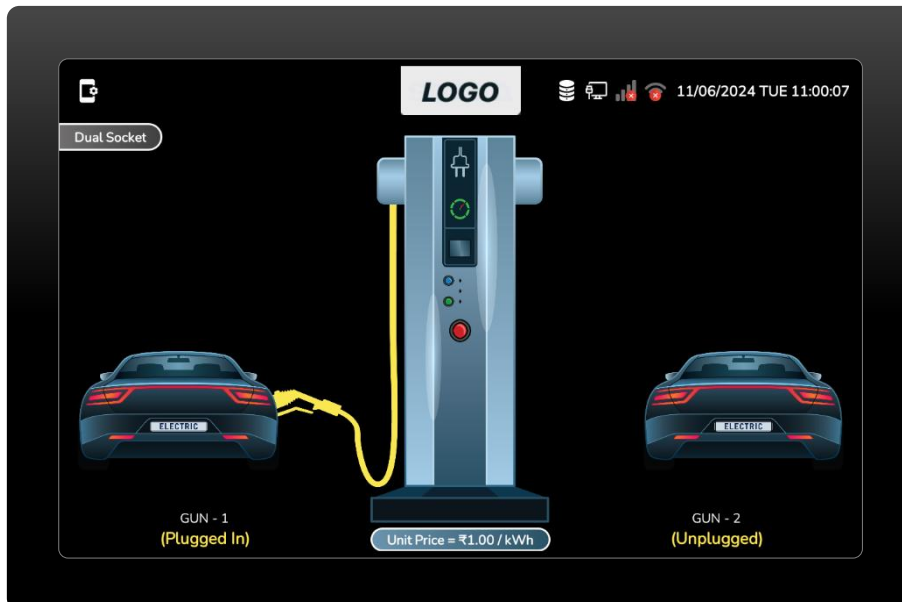

Figure 54 GUN Plugged in with Vehicle.
- Plugged one gun to the vehicle, the display indicates the plugged-in status, and the yellow GUN charger connects to the vehicle, as shown in the figure below. (Figure 54)